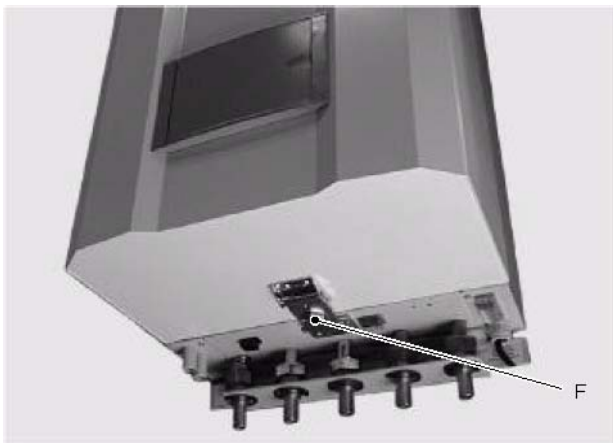

Fig 3
1. Turn the hexagonal nut F (fig 3) counter-clockwise and free the hook from the boiler frame.